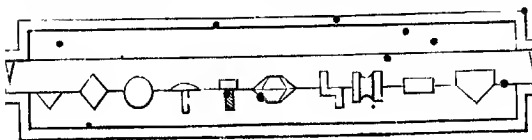

FIG. 8.
Ordinary plain work is arranged according to circumstances in the flask. Fig. 8 shows a general arrangement. When only one or two castings are
• *Moulding Screws.*—The pattern is screwed into the sand. See Fig. 8.